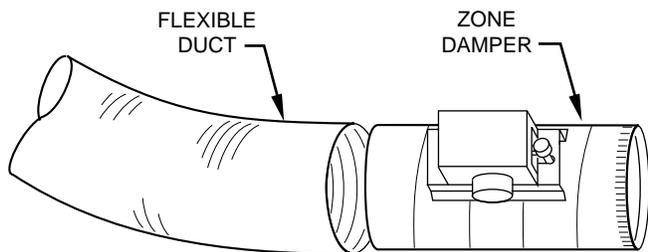

Fig 12—Round Flexible Ductwork A92479
1. Slip 1 end of flexible ductwork over 1 end of zone damper. (See Fig. 12.)